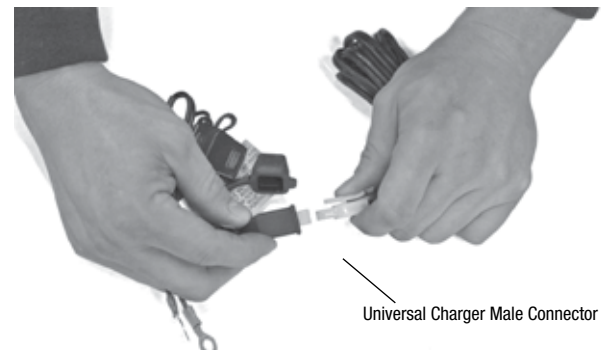

Fig. 4 Permanent / Alligator Clips to Universal Charger Connection
- 4 You may now connect the permanent connectors to the charger as shown in figure 4 and place the charger underneath the seat with the battery. Additionally the alligator clip connector can be used to charge batteries that are not on your vehicle. You may also use the optional charger wire hold downs to secure the charger to the floor by drilling holes and mounting with the supplied screws.